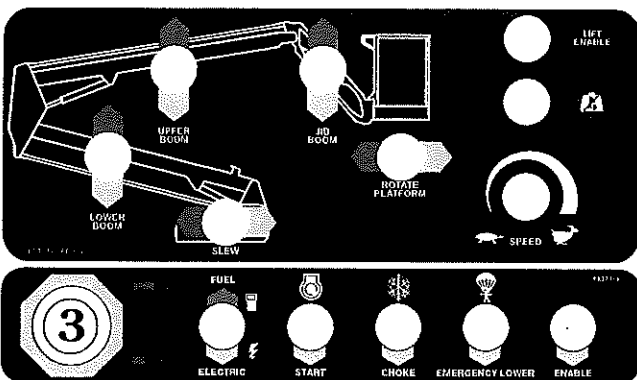

Figure 9.2 - Platform Control Box
3. Set the **Emergency Stop** switch **3** to ON (see Figure 9.2).